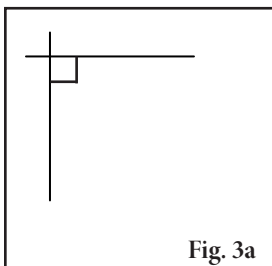
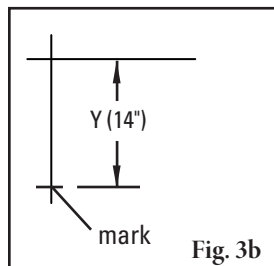
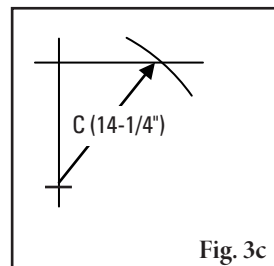

Fig. 3a
Fig. 3b
Fig. 3c
3. **Determine final dimension.** On a flat vertical surface, using a level, draw one horizontal line and one vertical line creating a right triangle (Fig. 3a). Measure down from the intersection the determined “Y” dimension and mark (Fig. 3b). With the tape measure starting at the modified “Y” mark, swing the tape across the “X” line and mark at the “C” dimension where it crosses the “X” line (Fig. 3c). Measure from the intersection to the “C” intersection and this will be your new “X” dimension (Fig. 3d).